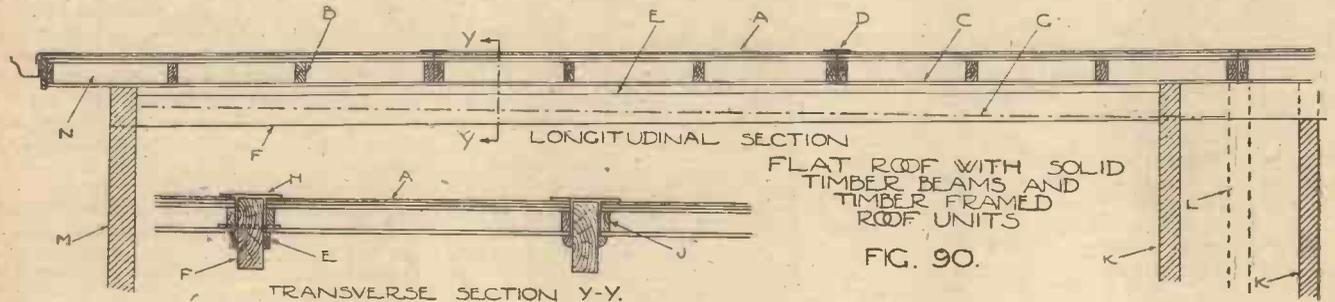
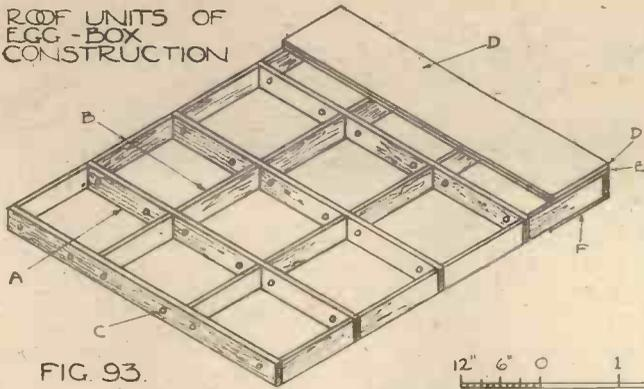
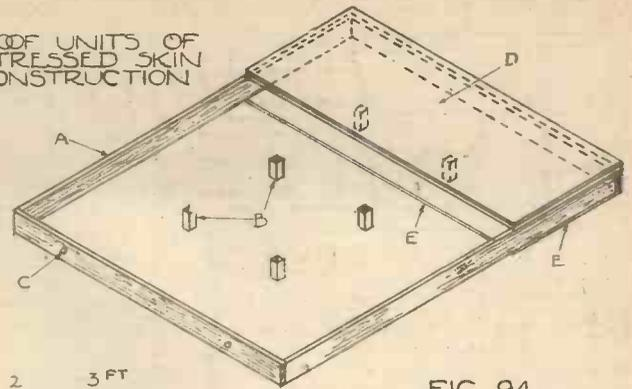

FIG. 90.
FIG. 93.
FIG. 94.
Solid timber beams and light timber framed panelled roof units are shown by Fig. 90. The beams, which are placed at
Fig. 90.—A—Sheet roofing, insulating material and rough boarding. B—Part of timber framework of roof unit. C—Sheet ceiling material. D—Transverse joint strip. E—Fillet or moulding. F—11in. x 4in. timber beam. G—Level. H—Joint strip over beam. J—Edge board of roof unit. K—Composite partition. L—Single partition. M—External wall. N—Overhanging eaves.
Fig. 93.—A—3in. x 1½in. main timber member. B—3in. x 1in. cross members. C—Vent holes to allow circulation of air through units. D—Sheet roofing material. E—Rough boarding. N.B.—Insulating material may be added if desired. F—Ceiling.
Fig. 94.—A—3in. x 1in. or 1½in. timber frame. B—1½in. x 1½in. or 2in. x 2in. pegs. C—Vent holes. D—Roofing material laid on stressed section sheeting. E—Stressed section forming ceiling.
The roof units may be designed and constructed as follows: (1) Of a light timber framework as Figs. 90 to 92, consisting of 3in. x 2in. or 1½in. members spanning in the 4ft. direction, and with 3in. x 1in. end boards framed in between or over the ends of the 2in. or 1½in. thick members. The joints in the framing must be framed and connected with proper joints or fastenings to resist all calculated stresses. (2) The egg-box principle, as shown by Fig. 93, formed with 3in. x 1½in. main members spanning without break in the 4ft. direction of the unit, and 3in. x 1in. cross pieces nailed between the main members. (3) The stressed-skin method, as Fig. 94, which consists of a framework around the four edges of the unit and 1½in. x 1½in. or 2in. x 2in. pegs in position where shown and fixed to the stressed skin upper and lower sheets.
Sheet coverings to the roof units may now be described. They represent the material on which the roofing material is laid and that which forms the ceiling. The ordinary timber-framed units as shown by Figs. 90 to 92 may have their top surface covered with either of the following: (1) Full ½in. thick rough boarding. The thickness may be preferred to be not less than 1/24th of clear span between the small timber beams; (2) ¾in. thick plywood, or of a thickness not less than about 1/32nd of clear span; (3) As (1) or (2) with a ¾in. thick insulation building board laid on top of the rough boarding or plywood.
The egg-box type of unit, as Fig. 93, may be covered similarly to the timber-framed units.
The stressed-skin unit, as Fig. 94, must be primarily covered with plywood, usually ¾in. thick, or of a thickness required by calculation of the stresses. An insulating material may be laid on top of the plywood if desired.